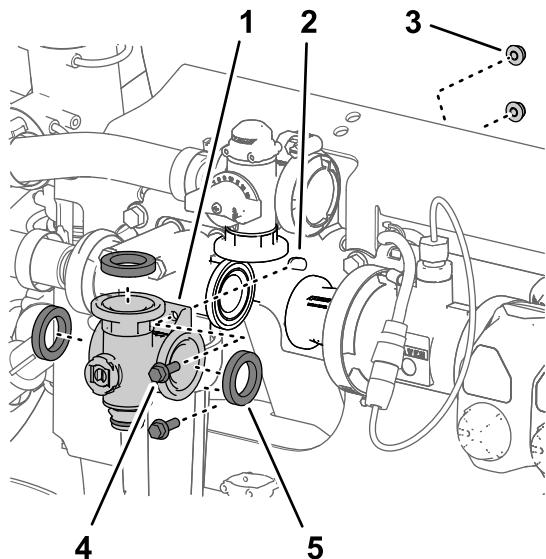

Figure 114
2. Remove the 3 flange clamps that secure the agitation-valve manifold to the flanges of the pressure-filter head and the coupling adapter (Figure 114).
3. Remove the 2 flange-head bolts (1/4 x 3/4 inch) and 2 flange locknuts (1/4 inch) that secure the agitation-valve manifold to the valve support (Figure 114).
4. Remove the agitation-valve manifold and gaskets from the machine (Figure 114).